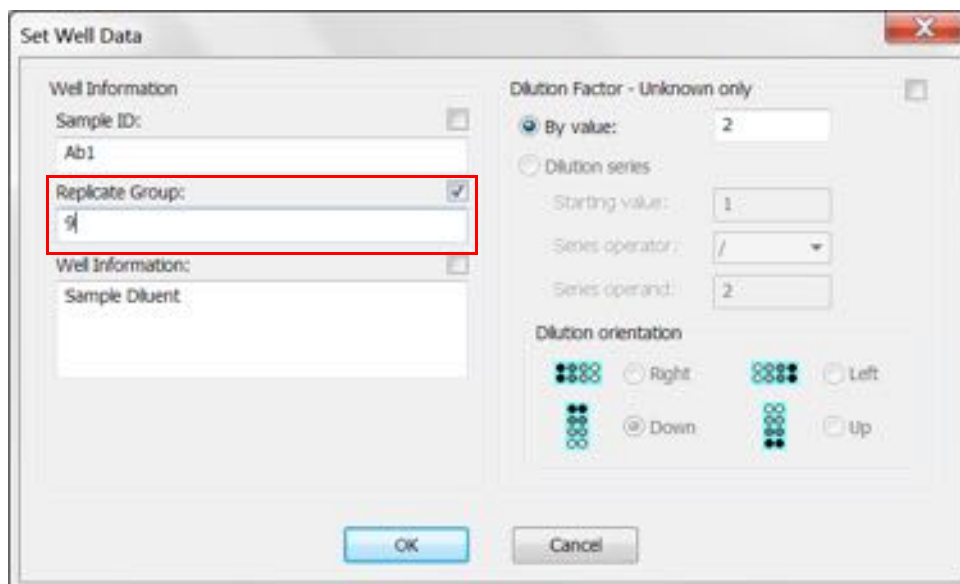

Figure 7-27: Add Replicate Group from the Sample Plate Map
2. In the **Set Well Data** dialog box (see Figure 7-27), enter a name in the **Replicate Group** box and click **OK**.